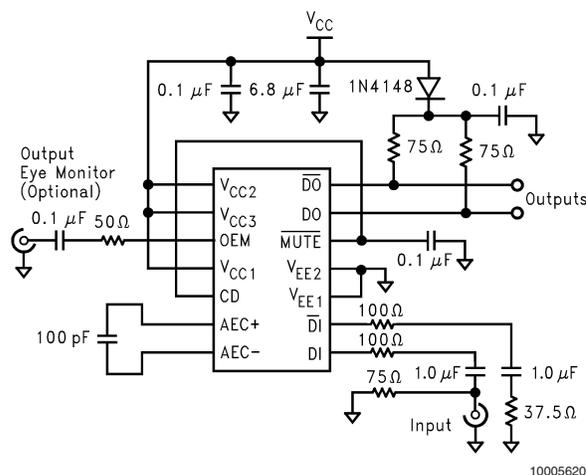

FIGURE 1. CLC014 Equalizer Application Circuit
**Carrier Detect (CD)** is a CMOS output that indicates the presence of equalized data from the filter. This CD output can be connected to  $\overline{\text{MUTE}}$  to suspend changes in the data outputs DO and D0-bar, if no valid signal exists. This simple configuration prevents random output transitions due to noise. For sparse transition patterns it is recommended that a capacitor be connected to CD as shown in Figure 1.
The OEM is a high-speed, buffered output for monitoring the equalized eye pattern prior to the output comparator. Its output is designed to drive an AC-coupled 50 ohm coaxial cable with a series 50 ohm backmatch resistor. The cable should be terminated with 50 ohm at the oscilloscope. Figure 1 shows a schematic with a typical connection.
The CLC014 operates from either +5V or -5.2V single supplies. Refer to *Figure 1* when operating the part from +5V. When operating with a -5.2V supply, the  $V_{EE}$  pins should be bypassed to ground. The evaluation board and associated literature provide for operation from either supply.